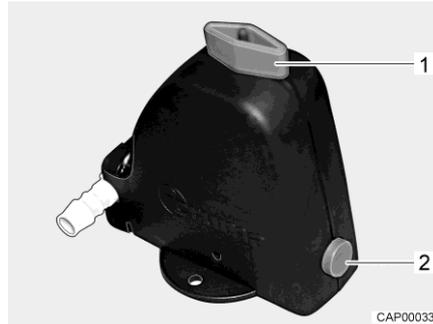

Fig. 269 Safety/drainage valve
- Open the safety/drainage valve (Truma). To do this turn the knob (Fig. 269,1) parallel to the safety/drainage valve. The push button (Fig. 269,2) jumps out.